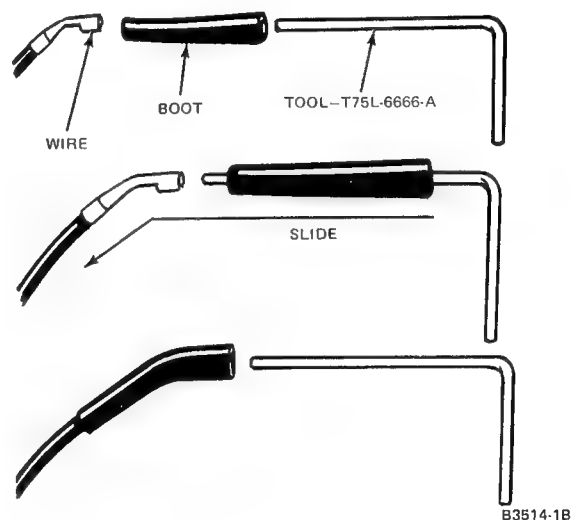

FIG. 19 Installing Spark Plug Wire Boot on Wire
- Position the new boot onto Tool T75L-6666-A as shown in Fig. 19.